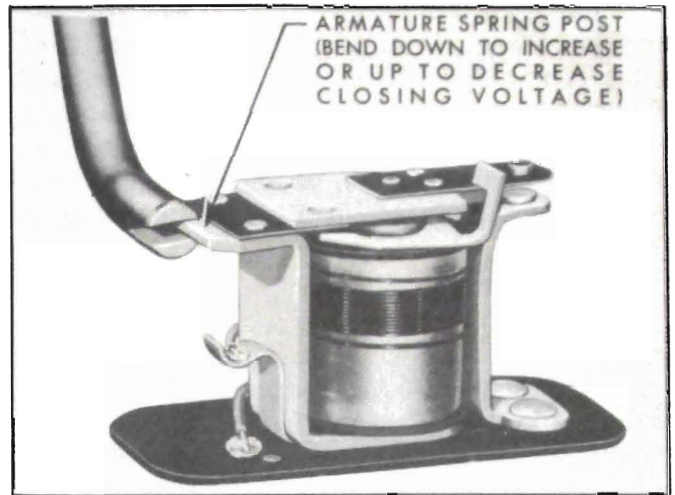

Figure 10-98—Adjustment of Horn Relay Closing Voltage
9. If closing voltage is not within specified limits, bend the armature spring post as required. Bend down to increase closing voltage or bend up to decrease closing voltage. See figure 10-98.